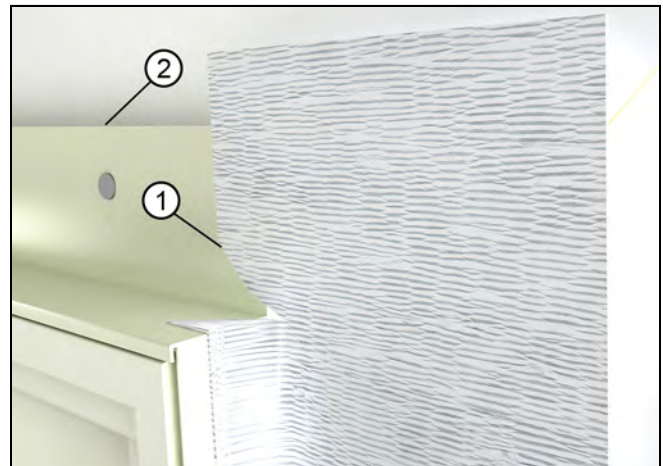

Figure 273
6. Lap vertical strips of adhesive flashing tape onto the window and out over the WRB. Make small diagonal cuts at the head jamb as in Figure 273 to allow the membrane to fold back onto the exterior and frame.